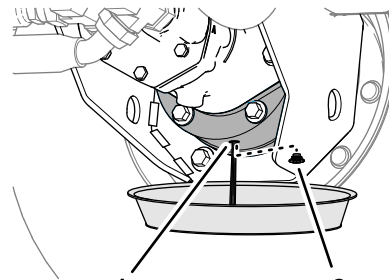

Figure 91
6. Place a drain pan under the brake housing, remove the drain plug, and allow the lubricant to drain completely (Figure 91).